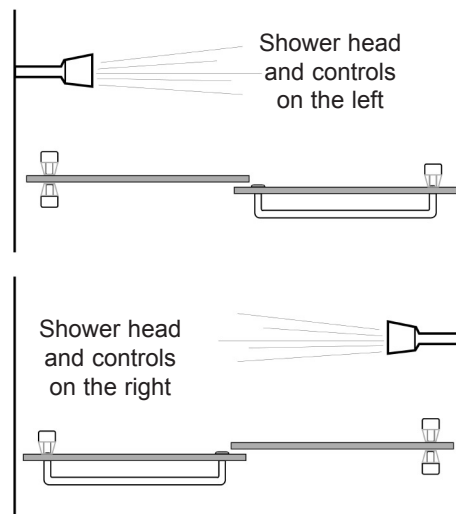

Figure 7
Before you begin, refer to Figure 7 to determine the correct orientation of hardware for your own installation. The Inside Door Panel (#6), with back-to-back Pull Knob/Bumpers (#8) will slide to the wall nearest the shower head and the Outside Door Panel (#5) with Tubular Towel Bar and one Pull Knob/Bumper (#8) will slide to the opposite wall.
- M. Finally, gently slide the Inside Door Panel (#6) towards the wall with the shower head and the Outside Door Panel (#5) to the other wall to ensure that they clear one another. Double check that the overlap of the two doors is correct, as shown in Figure 7.